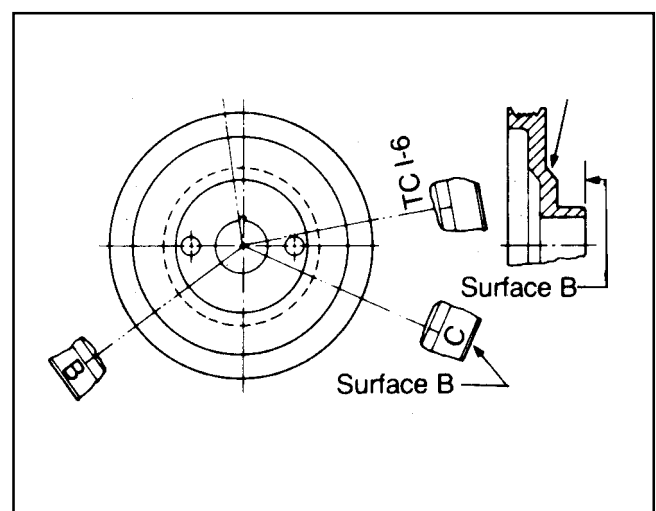

Fig 7-10. Accessory drive pulley marking KT/KTA 1150
1. Bar the engine in the direction of rotation until "B" mark on the pulley, Fig. 7-10, is aligned with pointer on the gear case cover. In this position, both valve rocker levers for cylinder No. 3 must be free (valves closed). The injector plunger for cylinder No. 6 must be at the top of travel; if not, bar the engine through 360 degrees, realign the marks with the pointer.